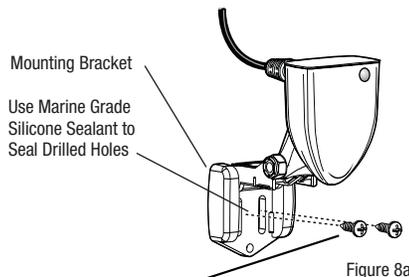

Figure 8a
- Use a marine-grade silicone sealant to fill the drilled holes, especially if the holes penetrated the transom wall. (See Figures 8a and 8b.)
- With either a flat head screwdriver, a 5/16" (8 mm) hex driver, a 5/16" (8 mm) socket, or a Phillips head screwdriver, mount the assembly to the transom using the two #10 - 1" (25 mm) long hex head screws or two #8 - 5/8" Phillips wood screws (provided). (See Figures 8a and 8b.)
- Make sure that the transducer location has not changed, then fully tighten the two mounting screws (Figure 8a or 8b). Snap the pivot back down.